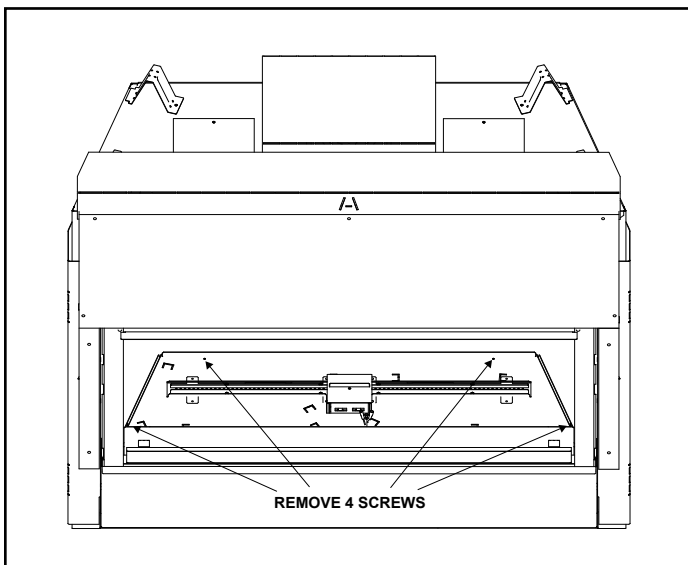

Figure 1. Remove Media Tray
2. Remove the media tray by removing four screws located on the front and rear edges edge. See Figure 1.